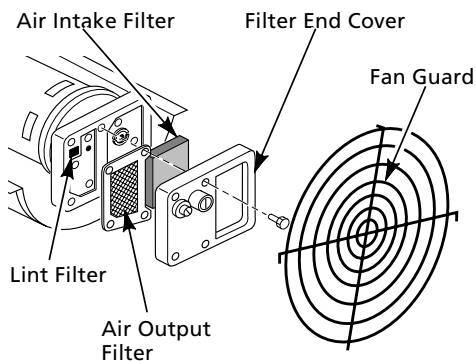

Figure 7 - Air Output, Air Intake, and Lint Filters
- Remove filter end cover screws using 5/16" nut-driver (See Figure 7).